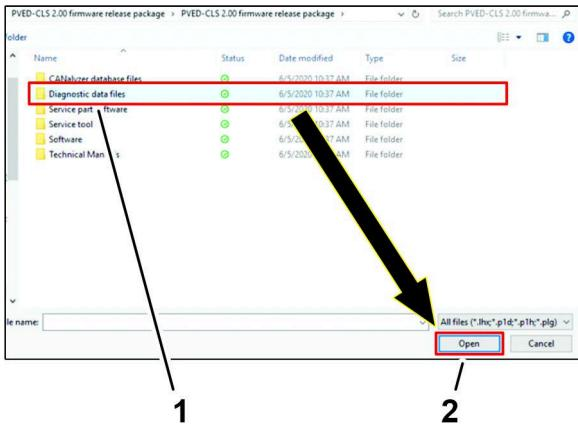

Figura 44
5. Clique na pasta Diagnostic data files, e clique no ícone OPEN (Figura 44).